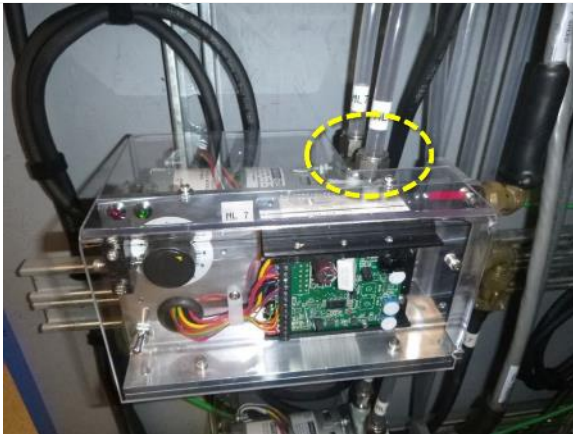

Figure 35. Disconnect Gas Lines from Top of Pump.
STEP 3 | Use a crescent wrench and 7/8" end wrench to disconnect the fittings connecting the gas lines (**Figure 35**).